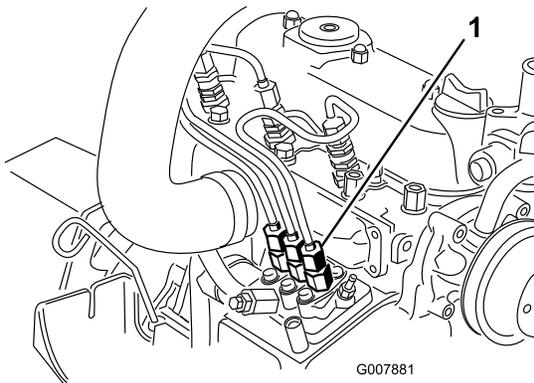

Figure 44
1. Place a rag under the pipe connection coming from the injection pump to the No. 1 injector nozzle as illustrated in Figure 44.